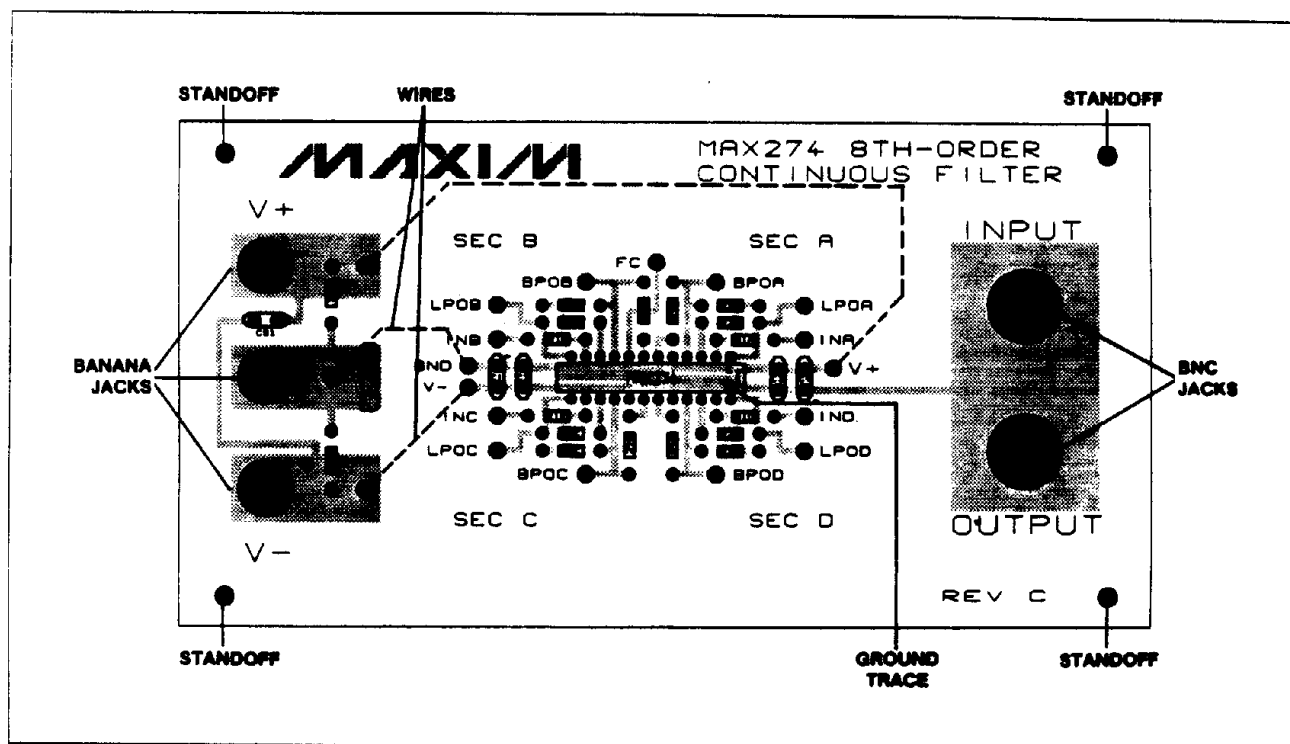
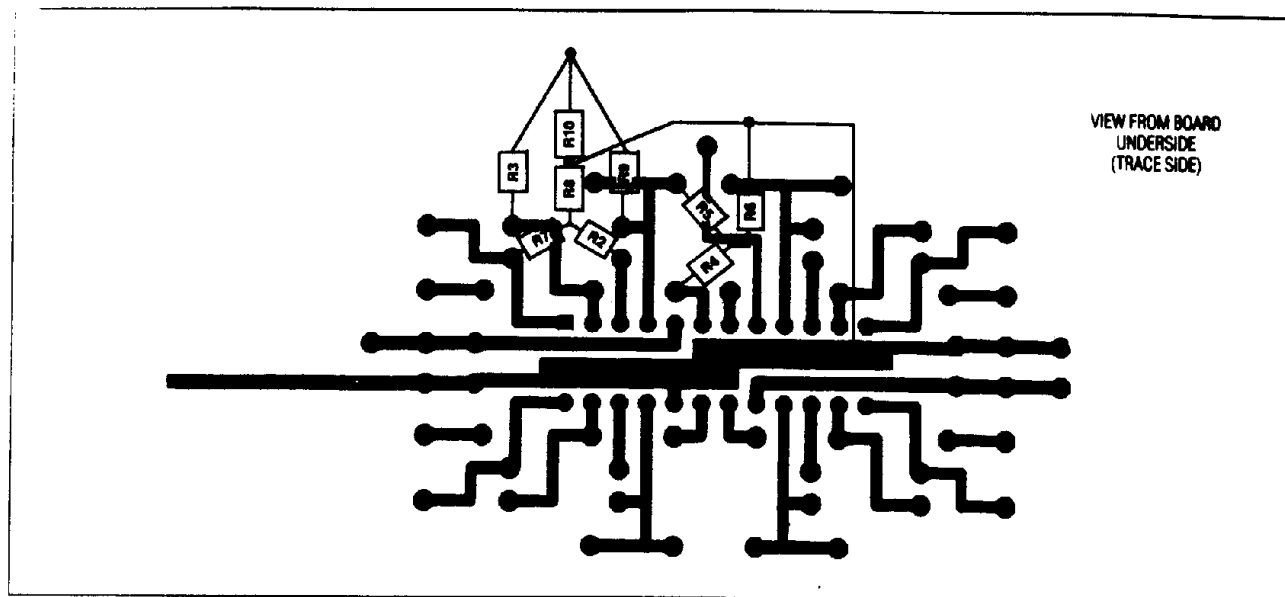

Figure 2. MAX274 EV Kit Component Placement Diagram
Figure 3. T-Network PC Board Connections
1. Install BNC connectors and banana jacks as shown in Figure 2. Connect wires from the V+, GND, and V- jacks to the nodes designated V+, GND, and V- on the circuit. Install MAX274 IC as shown (or install an IC socket if desired).
On the PC board, scratch off the green soldermask from the ground trace (Figure 2). Where required, substitute each normal resistor connection (R2, R3, or R4) with three T-network resistors on the underside of the board, using jumper wire to connect the T-network ground connection with the ground trace on the PC board (Figure 3).
where FPK is the frequency at which the gain at BPOA is greatest (this may not be equal to F_0); and the -3dB bandwidth is the difference between the two frequencies at which BPOA is attenuated by 3dB from its peak gain. Repeat these measurements for filter sections B, C, and D. For more information, refer to Figure 2 of the MAX274 data sheet, *Bandpass Output*.